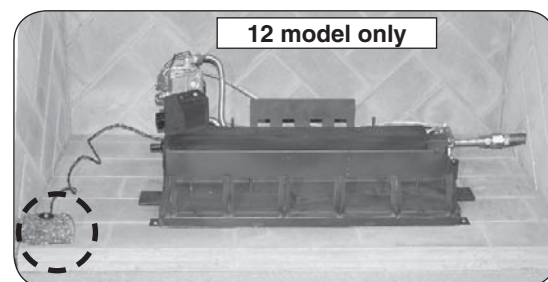

Fig. 19-2 Place wood-chip switch
3. Place the burner system in the fireplace. Center the burner in the fireplace. (Reference Fig. 19-2 for orientation.)
6. **12 models only: place the wood-chip ON/OFF switch at the front left corner of the fireplace.** Place as far from the burner system as possible. See Fig. 19-2.